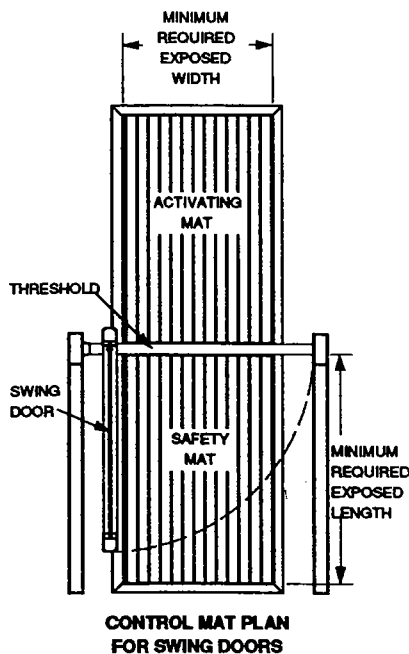

Figure 2
5. It is necessary to have a "Safety Mat" covering the entire area the door swings over. Step through the doorway onto the safety mat and remain motionless for four seconds. The door should remain open. Repeat at several locations on the mat. (See Figure 2)